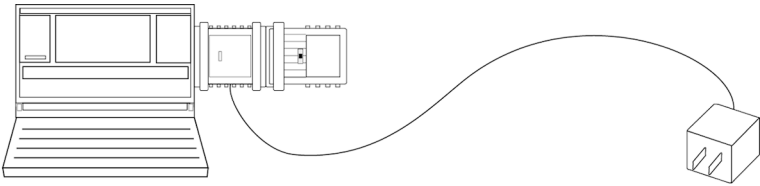

Figure 1. Connecting a Model 3P-MF
3. Connect the other end of the 3P-MF/3P-MF9 into the EIA-232 device. The application should look similar to the diagram in Figure 1.